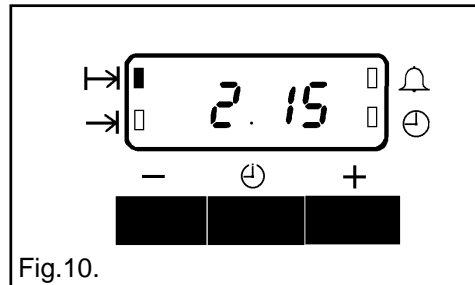

Fig.10.
- iii) To set the length of cooking time, press the Selector Control button until the 'Cook Time' ($\text{H} \rightarrow$) indicator neon is illuminated. Press the increase control (+) until the required length of cooking time is displayed, e.g. 2 hrs 15 mins as Fig. 10. Depress the decrease control (-) if necessary.